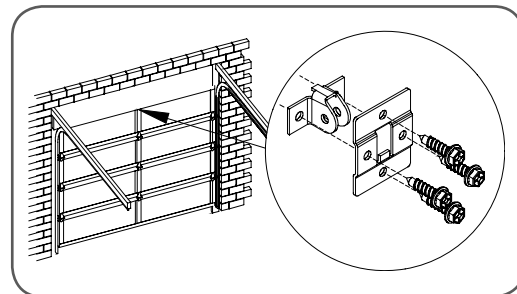

fig 22
The door bracket comes in two parts. The bottom plate with two mounting holes is used on its own for one piece doors. For sectional doors, the top plate is placed over the bottom plate and is fixed with four (4) screws (Fig. 22).
- Mount the door bracket, or bracket assembly, on the door's centre line one-third down the top panel (Fig. 22) using M6 or equivalent screws (not supplied),